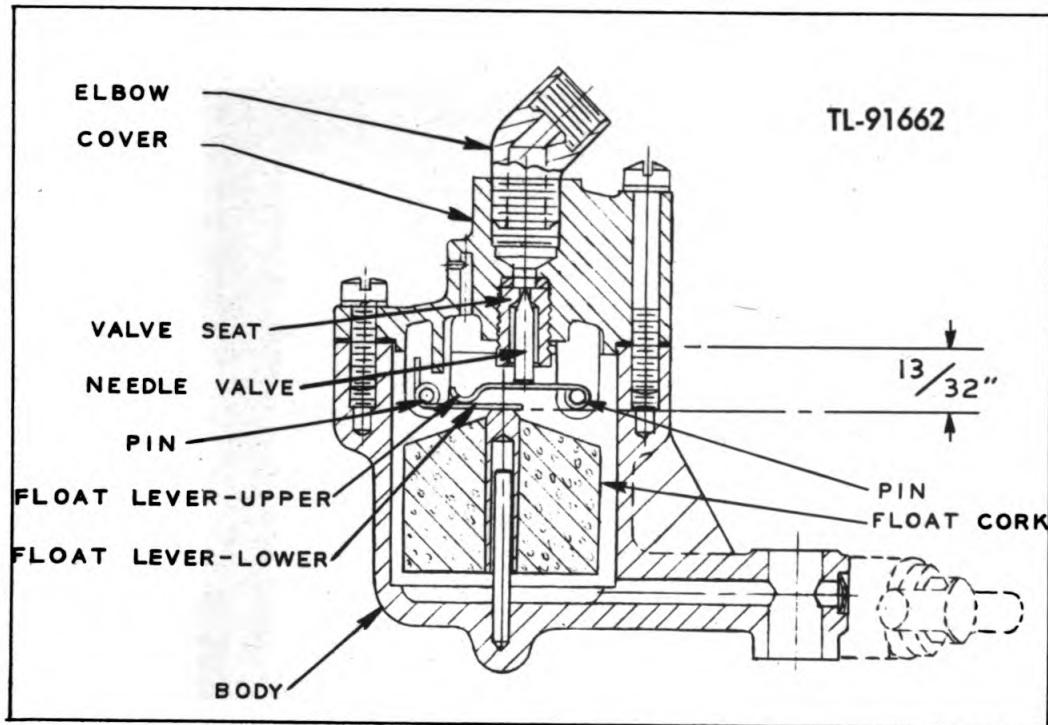

Fig. 13—Carburetor Float Assembly
- (a) Remove the air cleaner (553) and one screw (493) from each side of the carburetor bowl.
- (b) Remove the air valve (502) and examine it to determine whether small particles of foreign matter are preventing the valve from seating.
(4) If the air check-valve is functioning properly, the trouble may be with the reed valve (509) which is attached to the back side of the carburetor. To check this valve, proceed as follows:
- (a) Remove the air cleaner (553) and disconnect the fuel line (528) from the carburetor float bowl.
- (b) Then take out the two bottom screws that lead from the rectifier (541) to the electric governor.
(5) If the engine floods easily when starting and is not over-choked, or it is not possible to adjust the carburetor for satisfactory engine performance, the difficulty may be due to a faulty float needle valve (519), needle valve seat (523), or float cork (515). If any of these mentioned parts are not functioning properly, the level of the fuel in the float bowl will be too high, permitting the fuel to flow into the air bleed chamber. Figure 13 shows the position of parts constituting the float assembly. To determine if the needle valve and seat are seating properly, and that the float levers are not bent too high or too low, the distance from the lower lever to the face of the float bowl where the gasket (524) is located should measure 13/32 inches, as shown on the illustration.
- (6) If a new float (515) is installed, make certain it moves up and down freely on the float bowl pin.
- (7) The needle valve seat (523) is replaceable by unscrewing it from float bowl cover.
j. **Air cleaner.** The air cleaner (553) serves to prevent dust and grit from entering the engine and causing wear to moving parts. If the equipment is operated under extremely severe and dusty